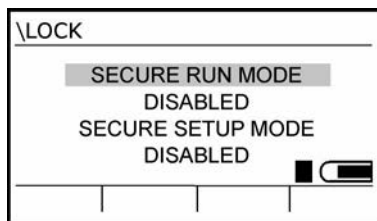

Figure 7-1: Security Control display
1. In the Start display, press the **LOCK** softkey. The Security Control display appears (Figure 7-1). The current status of Secure Run Mode is given below the words, **SECURE RUN MODE**, in the display.
1. In the Start display, press the **LOCK** softkey. The Security Control display appears (Figure 7-1).